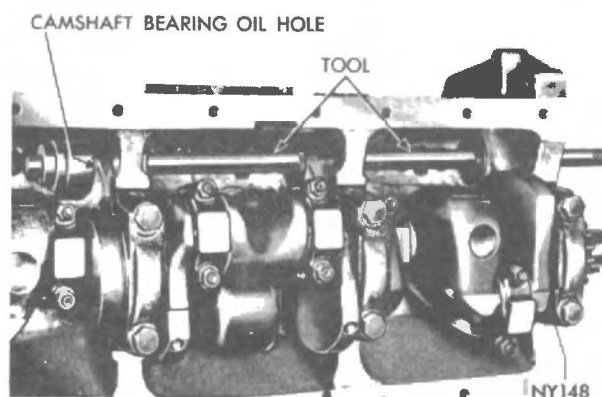

Fig. 29 - Removing and installing camshaft bearings (Tool C-3212A).
(1) Install the new camshaft bearings with Tool C-3132A by sliding the new camshaft bearing shell over the correct adapter.
(2) Position bearing in the tool. Install horseshoe lock and drive bearing shell into place (Fig. 29).